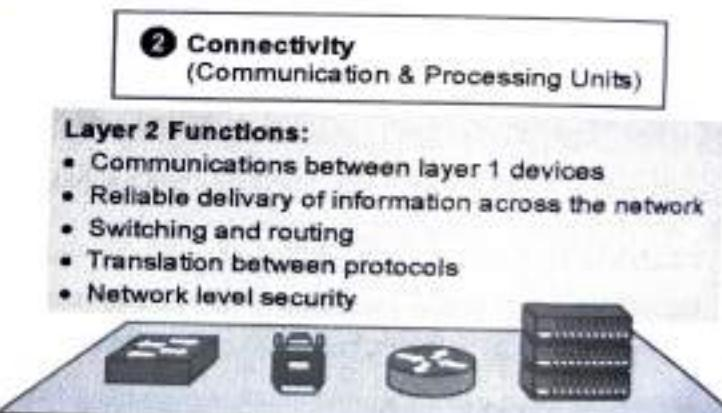

Fig. 2.3.3 : IoT Reference Model Connectivity Layer Functions
- Fig. 2.3.3 shows in details functions of the connectivity layer